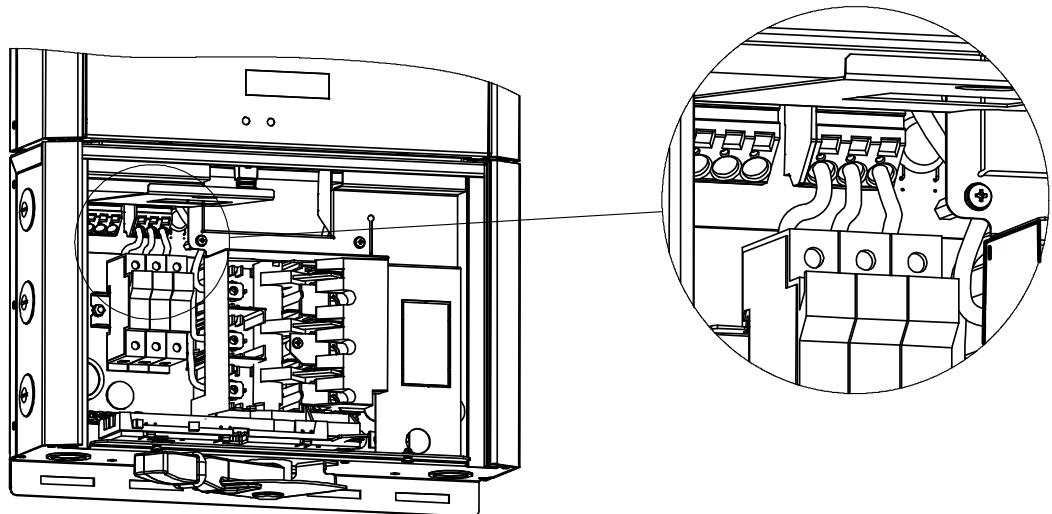

Figure 3-11 Fuse Holder Secured to Wiring Box
2. Insert the free ends of each of the three wires into the PV terminals marked **UNGROUND**. See Figure 3-11.
3. Snap the fuse holder to the provided DIN rail to secure it to the wiring box. See Figure 3-11.